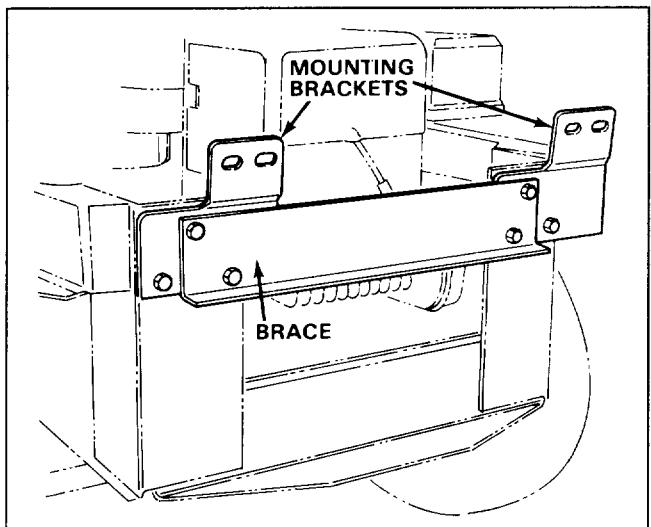

Figure 1
- Secure (2) mounting brackets and brace to rear of HMR frame with (6) capscrews (7/8" lg.) and lock-nuts as shown in fig. 1.